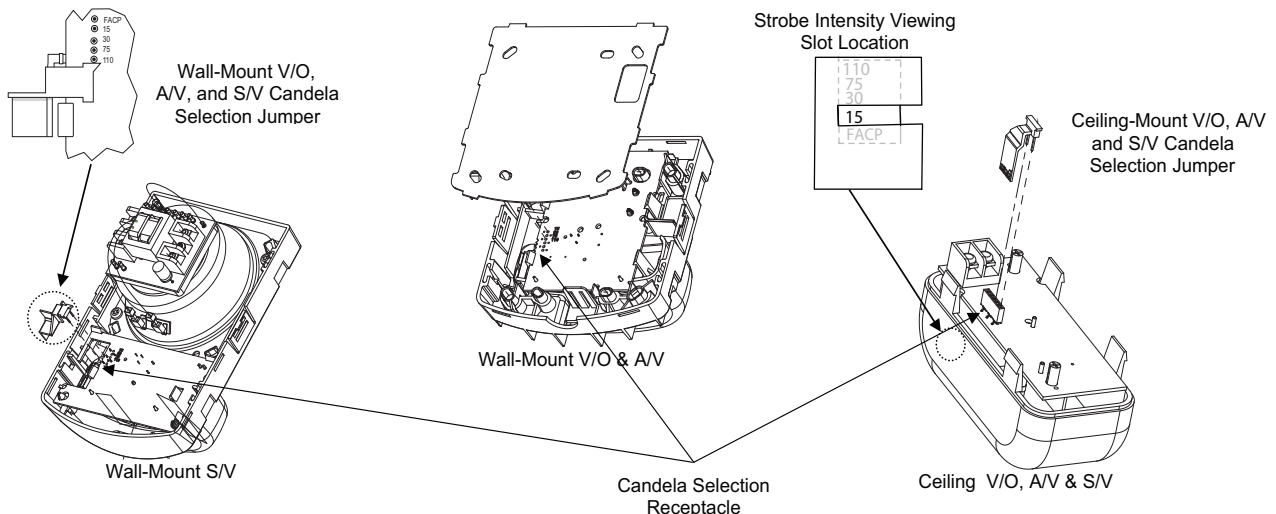

Figure 4. Multi-Candela Intensity Setting
1. Jumpers are factory set as FACP. If manual selection is required, strobe intensity is selected by jumper position (15, 30, 75, 110 candela or FACP). See Figure 4.